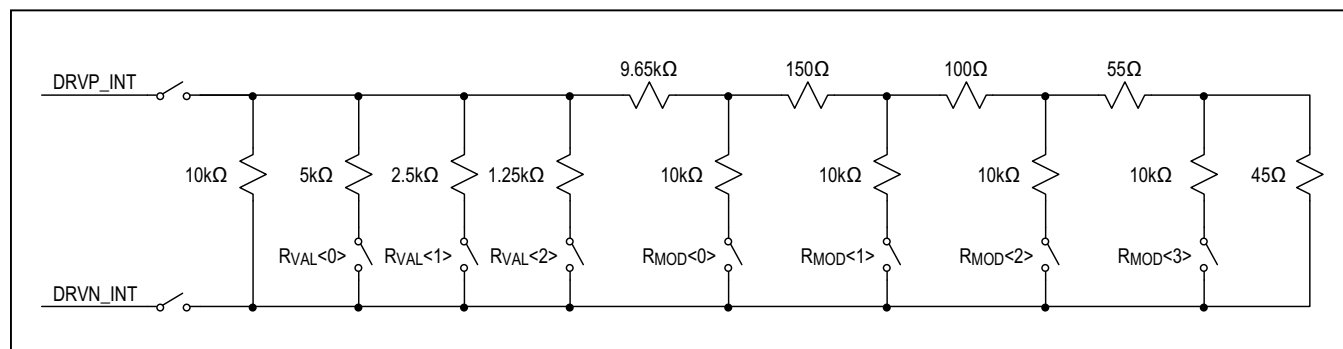

Figure 4. Programmable Resistive Load Topology
The programmable resistive load on the DRVP/DRVN pins allows a built in self-test of the current generator (CG) and the entire BioZ channel. Refer to Figure 4 for implementation details.